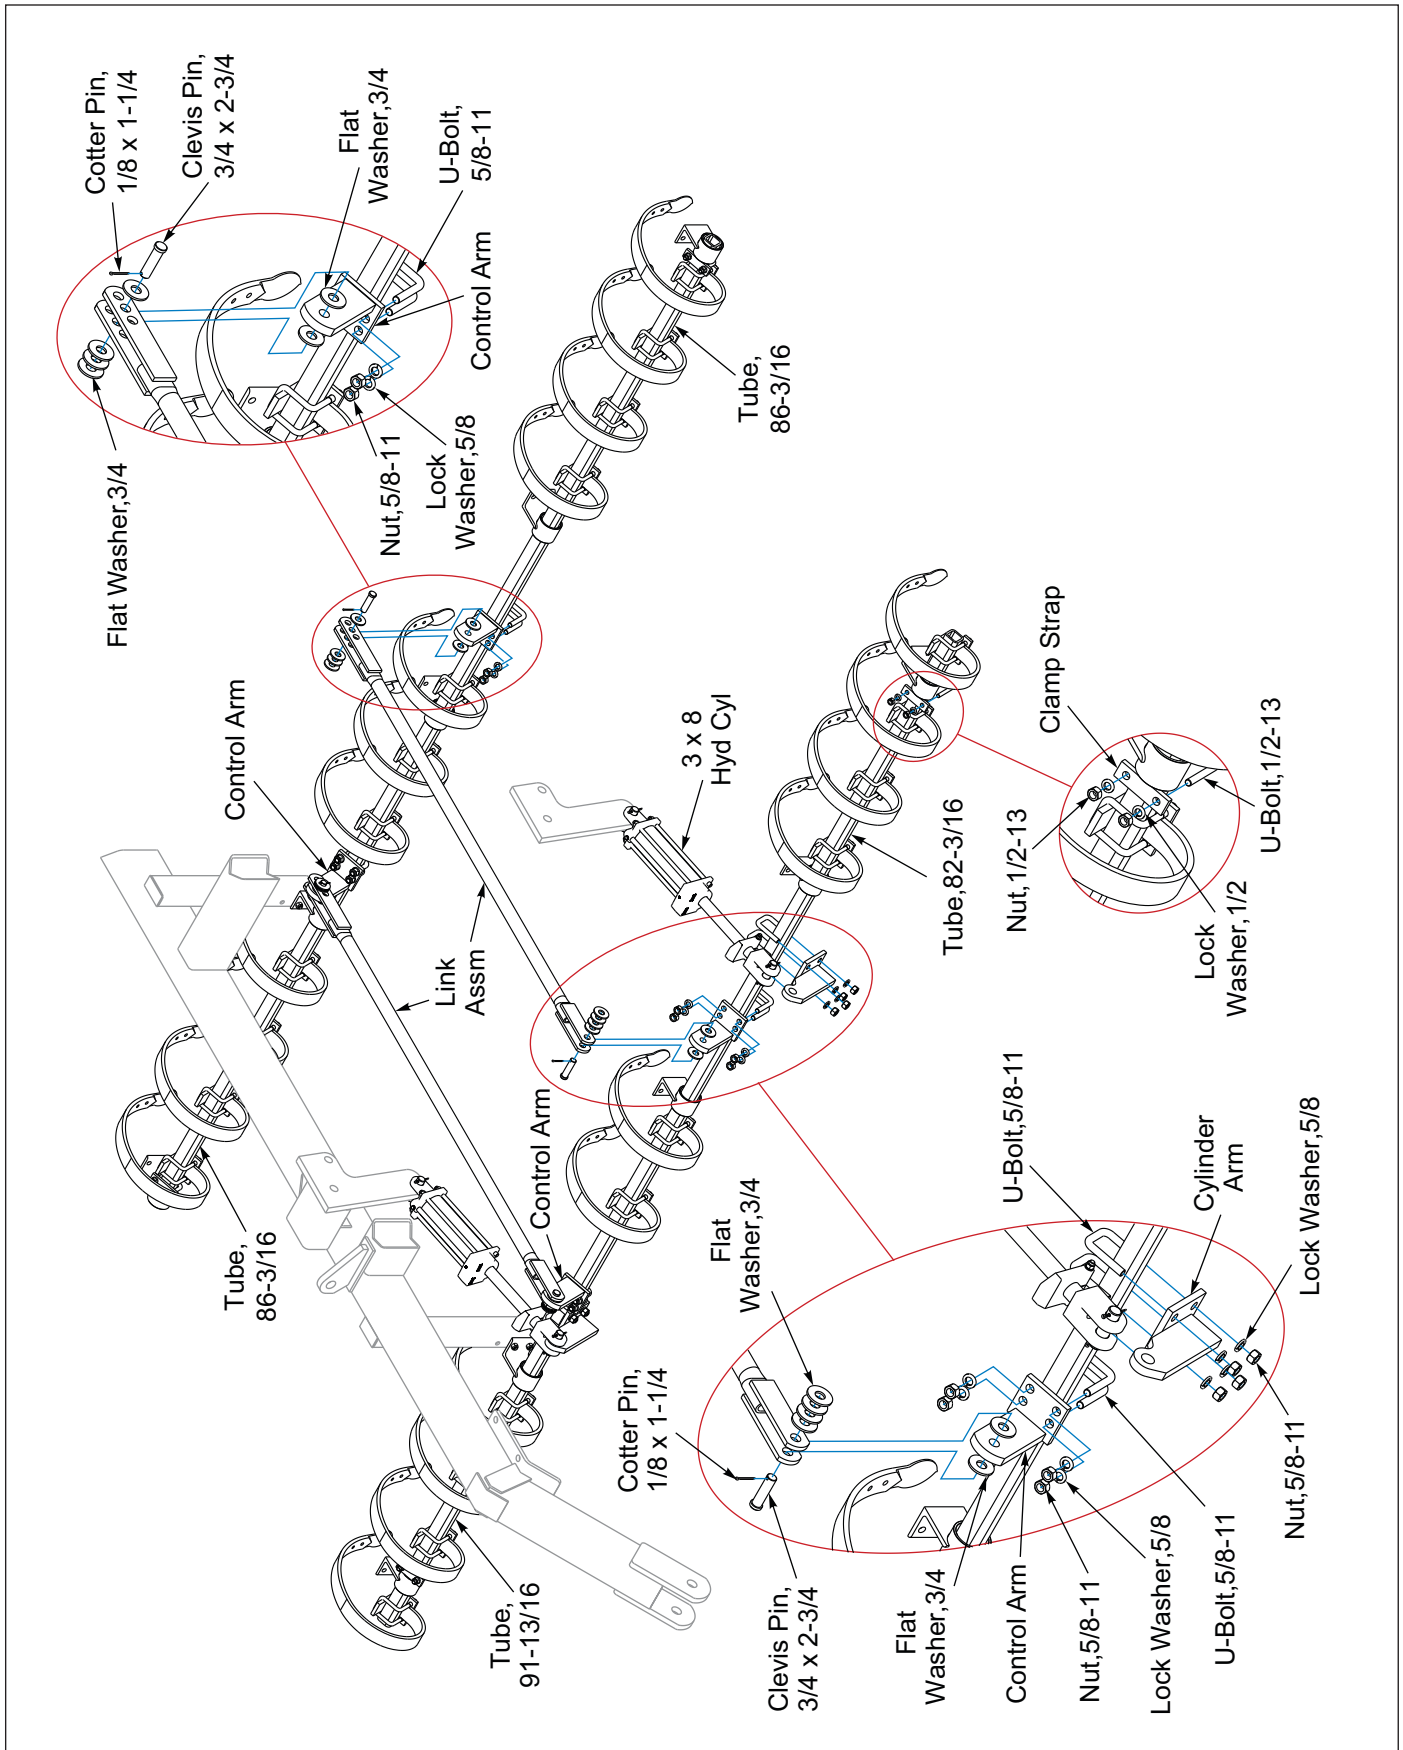

Figure 2-17: Center Frame C-Tooth Installation
2. Attach the Control Arms to the Front Tubes using 5/8-11 U-Bolts, Lock Washers and Nuts. Repeat for the Rear Tubes. **See Figure 2-17**.